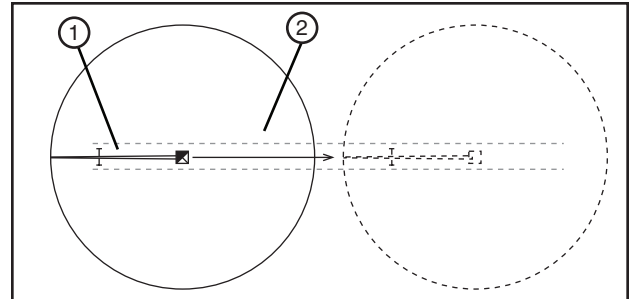

Figure 35-1 1. Machine
1. Position the machine in the tow lane. See figure 35-1.